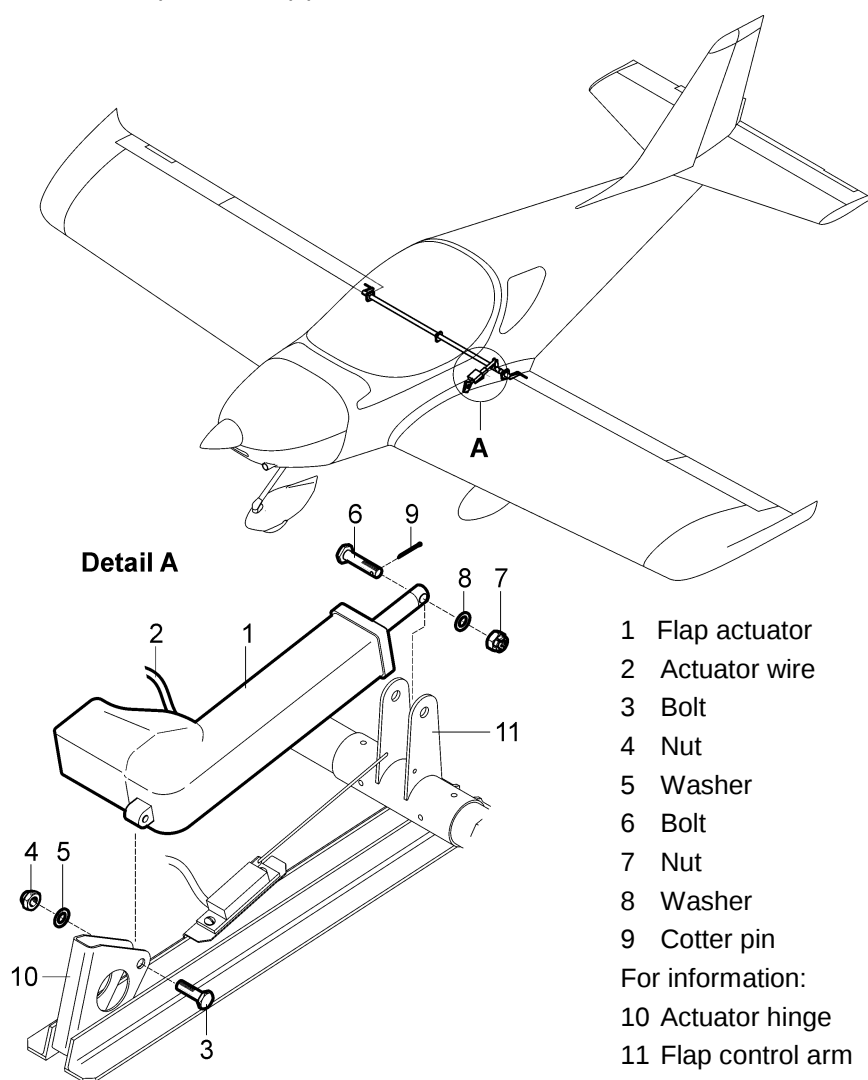

Fig. 6-8: Flap control actuator removal / installation
- Disconnect flap actuator wire (2, Fig. 6-8).
- Remove the cotter pin (9), unscrew the nut (7), remove the washer (8), bolt (6) and disconnect flap arm (11) from the flap actuator (1).
- Unscrew the nut (4), remove the washer (5), bolt (3), and disconnect actuator (1) from the actuator hinge (10).
- Remove the flap actuator (1).
- Fit the flap actuator (1, Fig. 6-8) to the actuator hinge (10), insert the bolt (3) to the hole, install the washer (5), screw and tighten the nut (4).
- Fit the actuator rod to the flap arm (11), insert the bolt (6) to the hole, install washer (8), screw and slightly tighten the nut (7).
- Secure the nut (7) with the new cotter pin (9).
- Connect the actuator wire (2) (see Wiring Manual or Chapter 16).